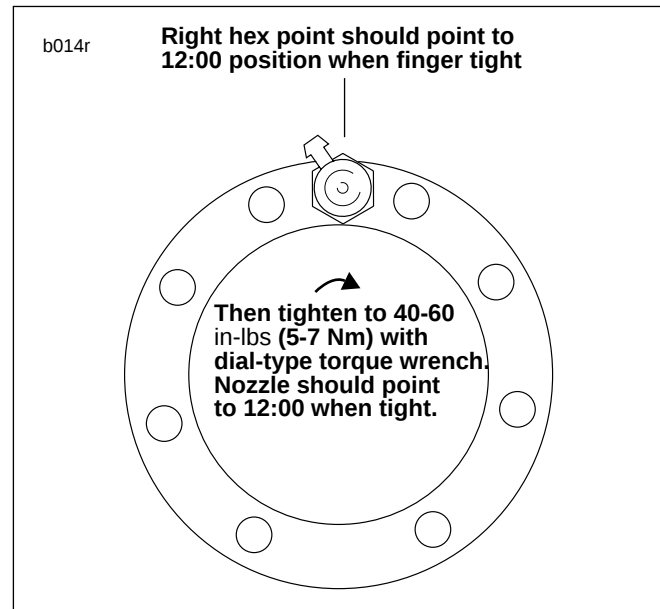

Figure 4-87. Fuel Tank Vent Alignment
6. See Figure 4-87. Align fitting so right front point of hex is oriented to 12:00 position when fitting is tightened finger tight. Make sure O-ring remains in groove of fitting while tightening.